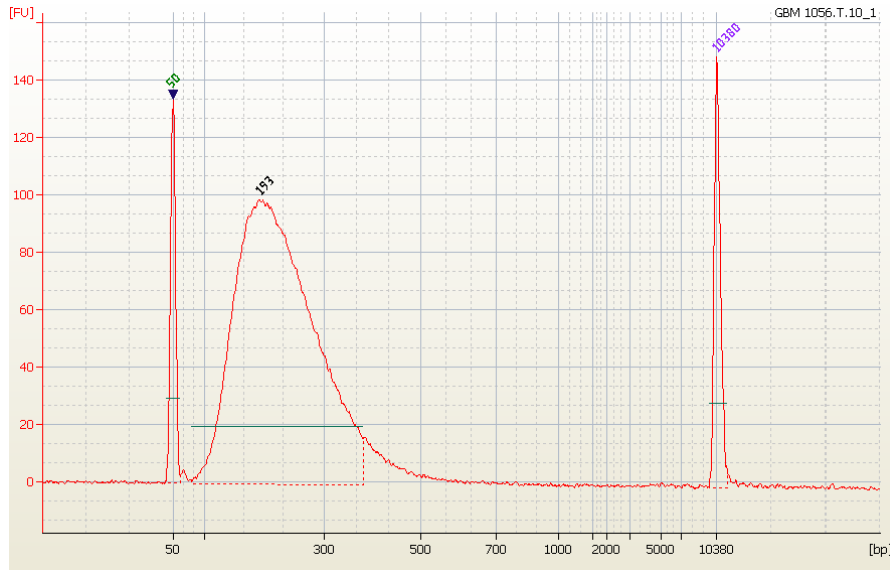

Fig. 2 Example Post-ligation DNA sample on Agilent Bioanalyzer 2100 DNA 7500 Chip. A second round of bead purification has been performed.
- d. Determine the yield by NanoDrop and run an Agilent Bioanalyzer 2100 DNA Chip 7500 to assure free adaptors have been removed (see Fig 2 for example).